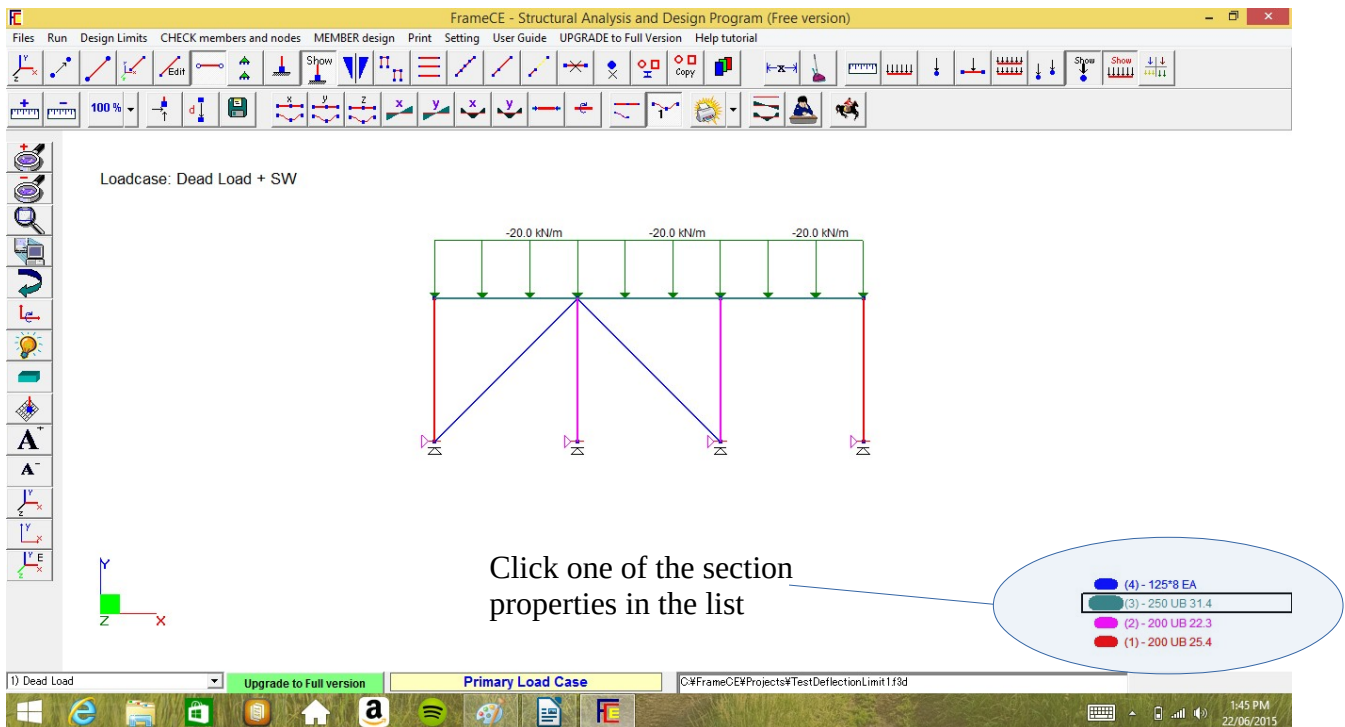

Figure 43
**Step 1:** From the list of section properties (see Figure 43) , click one in the list *(An elastic line will then appear between the section name and the mouse cursor.)*